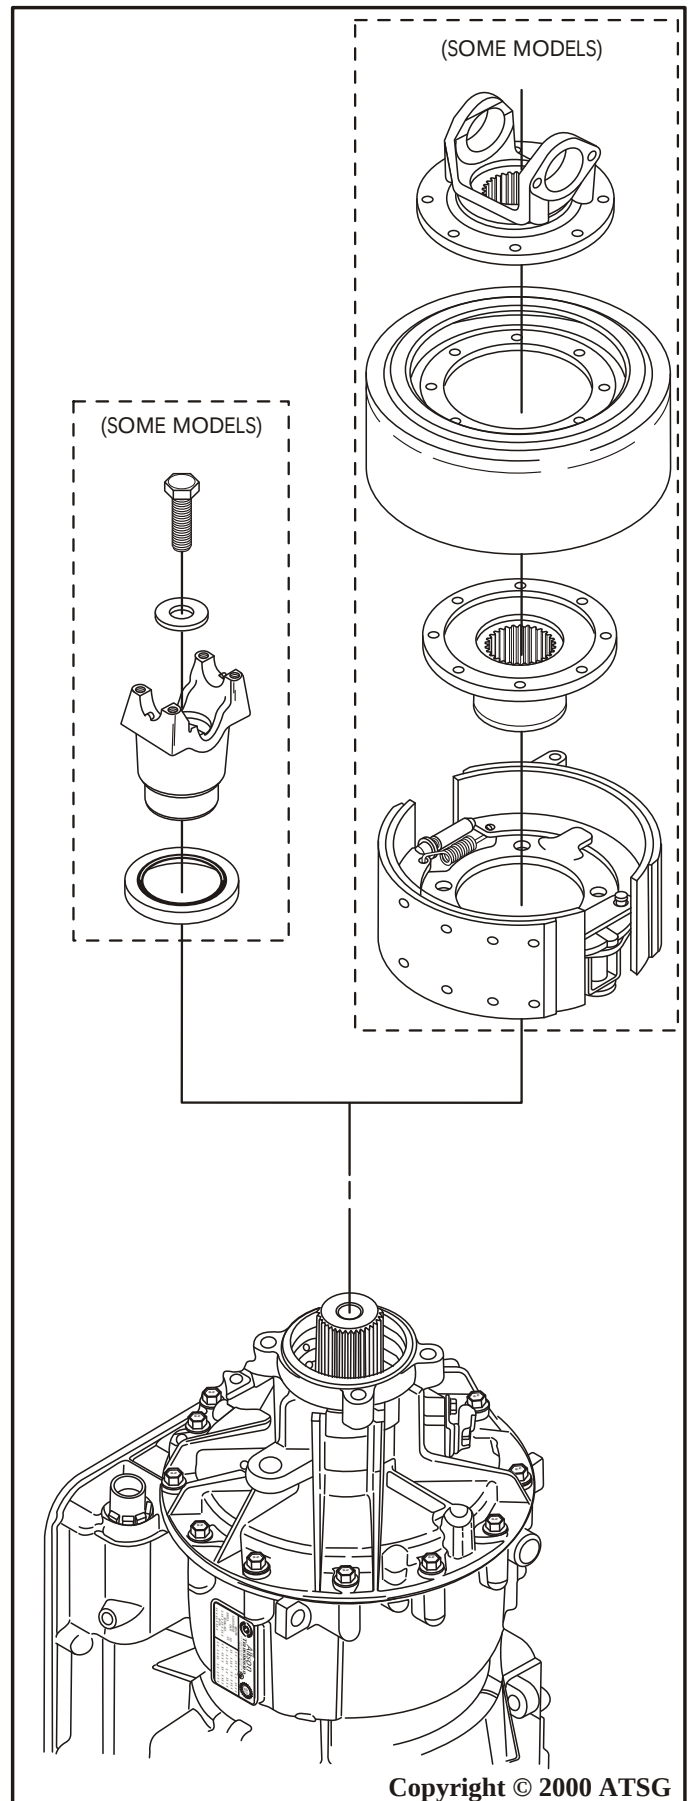

Figure 58
31. Rotate transmission case so that the extension housing is facing up as shown in Figure 58.
32. Remove the yoke from the transmission if it is equipped with one, as shown in Figure 58.
Note: Some models are equipped with the parking brake as shown in Figure 58. Four Wheel Drive models will have neither.